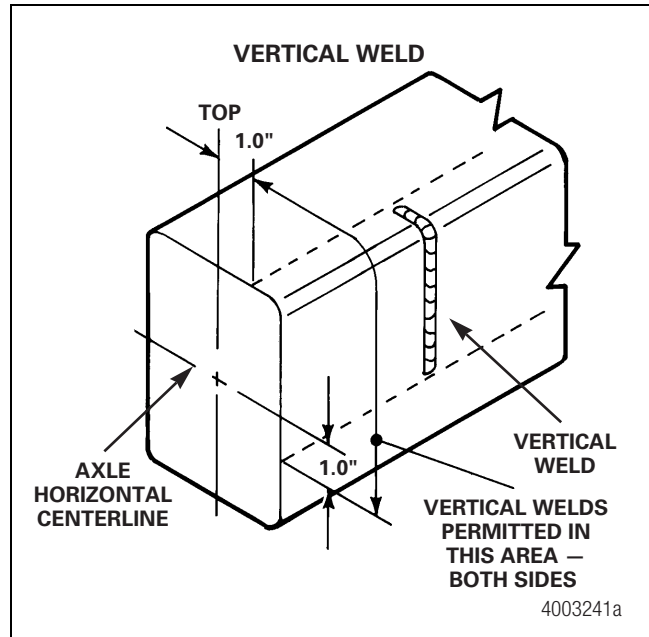

Figure 7.14
- Vertical welding is not allowed more than one-inch (25.4 mm) below the axle horizontal centerline. Figure 7.14.